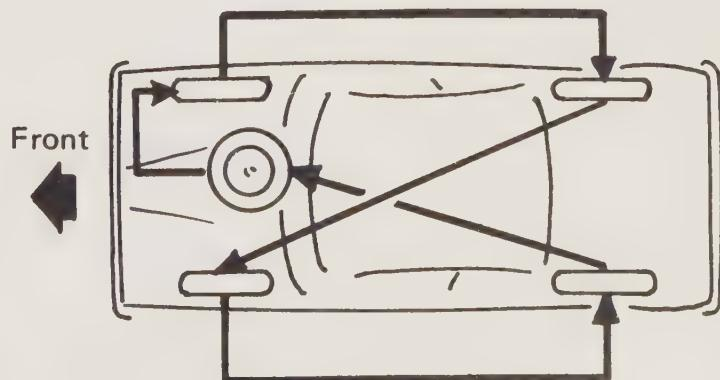

Fig. 8.20. Tire rotation
- To provide equal, and obtain maximum wear from all the tires they should be periodically rotated. If the tires are maintained at the same positions for a long period, uneven wear results. They should be rotated as shown in Fig. 8.20.